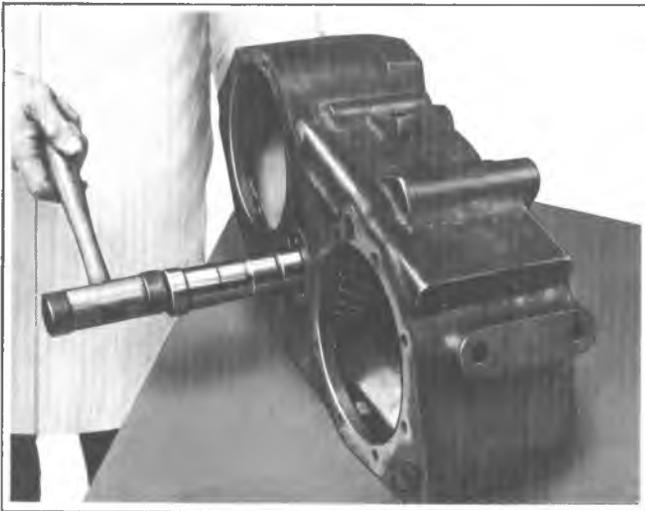

Fig. 7D-13R--Installing Idler Shaft
4. Install idler shaft from large bore side and drive through using a soft hammer (Fig. 7D-13R).